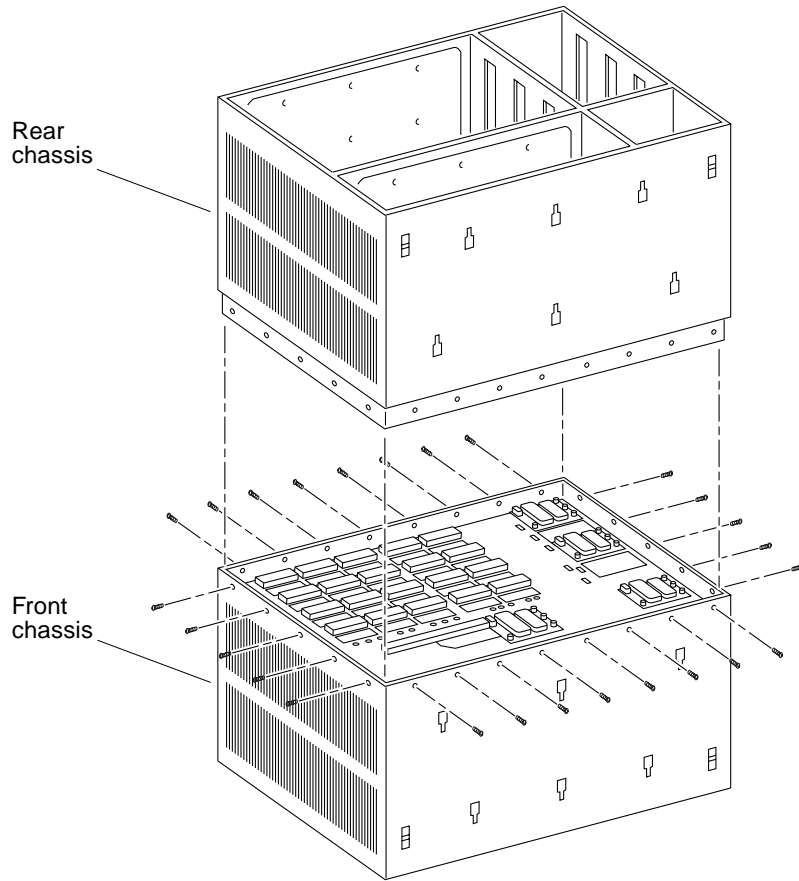

FIGURE E-25 System Chassis—Front and Rear
11. Remove the 26 screws that surround the center seam of the system chassis (FIGURE E-25).
12. Lift and remove the rear chassis section and set it aside (FIGURE E-25).